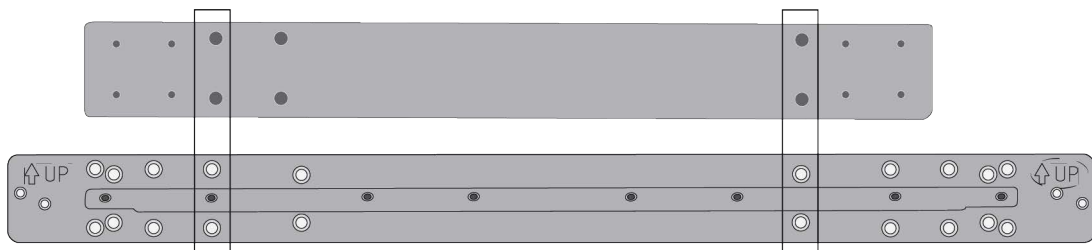

Figure 23. Inner Rail Screw Holes for the x560-28YSQ Switch
**x560-28YSQ Switch** Use four screws on each side. Refer to Figure 23.